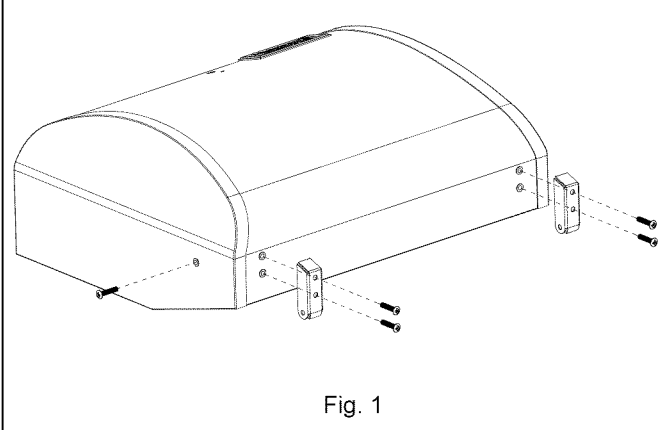

Fig. 1
*Locate:* The Gas Grill Lid, (2) Top Hinges, (5) M6x35 bolts
Refer to Fig. 1, attach (2) Top Hinges to the Gas Grill Lid using (4) M6x35 bolts; Screw (1) M6x35 bolt to the right side of the Gas Grill Lid as shown.